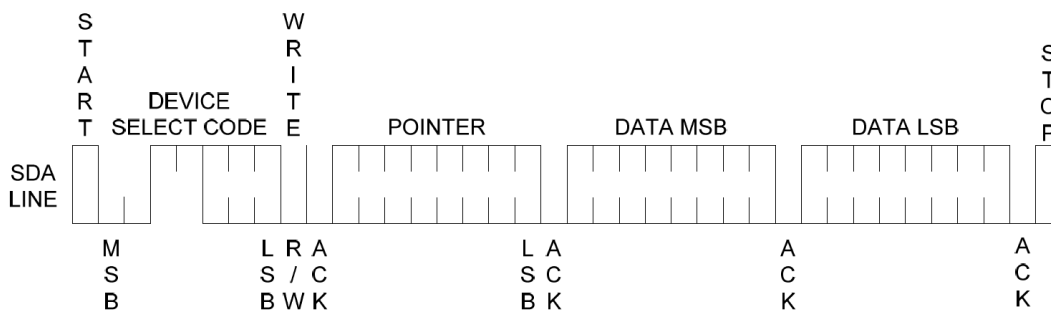

Figure 16. Write to TS Register
2. Write to TS register will always include the Device Select Code byte, the Pointer byte, and requires two Data bytes. The pointer register latches the data for reading operation (see Figure 16).